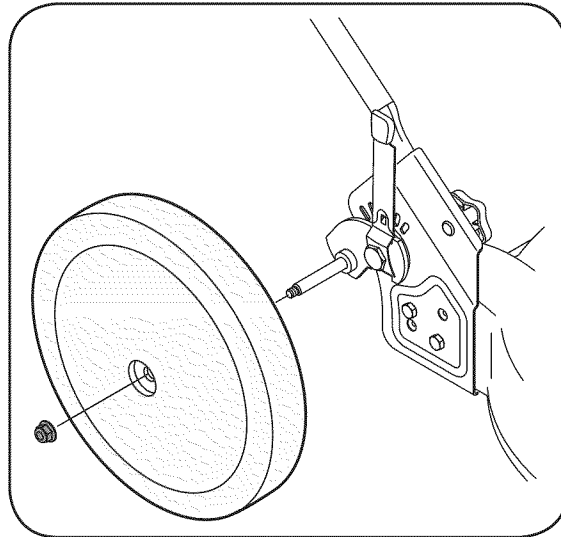

Figure 3-6
6. Install rear wheels as follows in Figure 3-6 (wheels maybe already installed at factory, if so disregard this step):